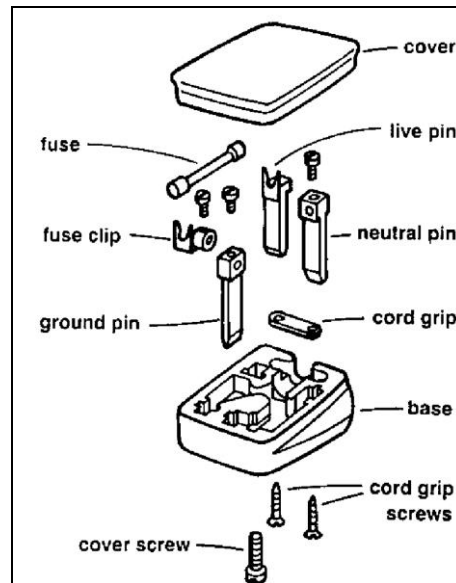

Figure 2
2. Suggest a suitable assembly technique for an automatic assembly of the following assembly given in figure 2.